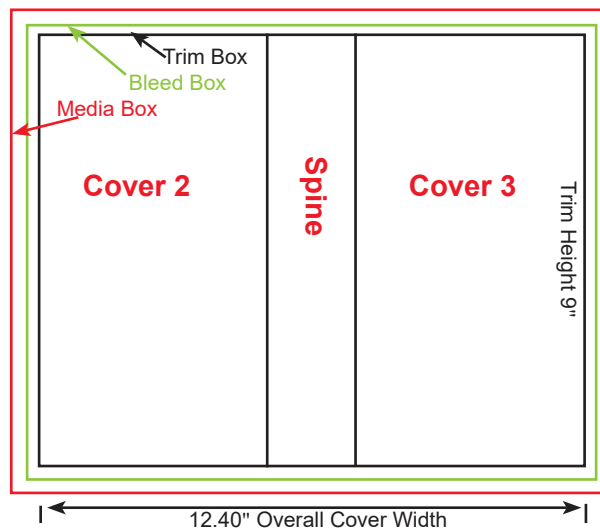

Figure 4
- Inside Soft Cover: Must follow the above rules showing on second page of the Print-Ready PDF file. Even if one or more covers are blank, the cover must be supplied complete with two individual spreads. (See Figure 4)